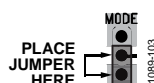

Figure 7. Disabled Jumper Position
- Use a jumper to connect the bottom two pins of the MODE test bus. This connects MODE to GND and disables the converter (see Figure 7).